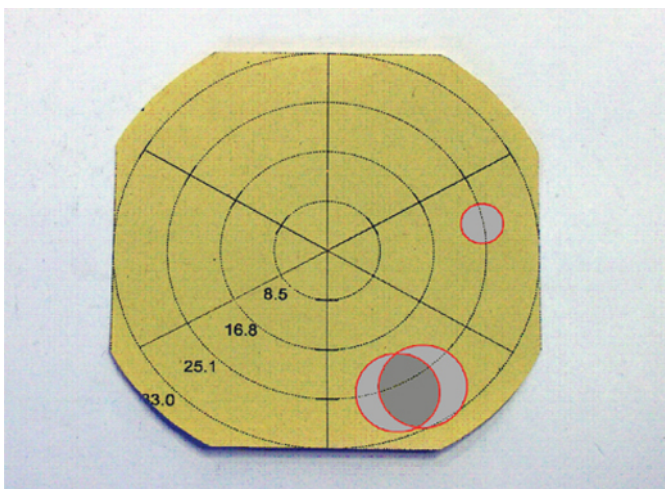

Figure 2
- overlaps (figure 2)
- the spray beams are arranged in a very decentralized manner (figure 2)